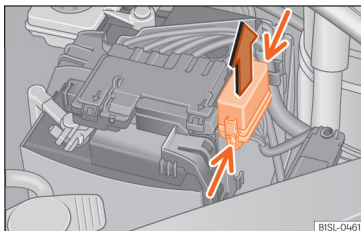

Fig. 84 In the engine compartment: lid of the fuse box.
- Press the attachment tabs in the direction indicated by the arrow (thin arrows) to release the fuse box cover »» **Fig. 84**.